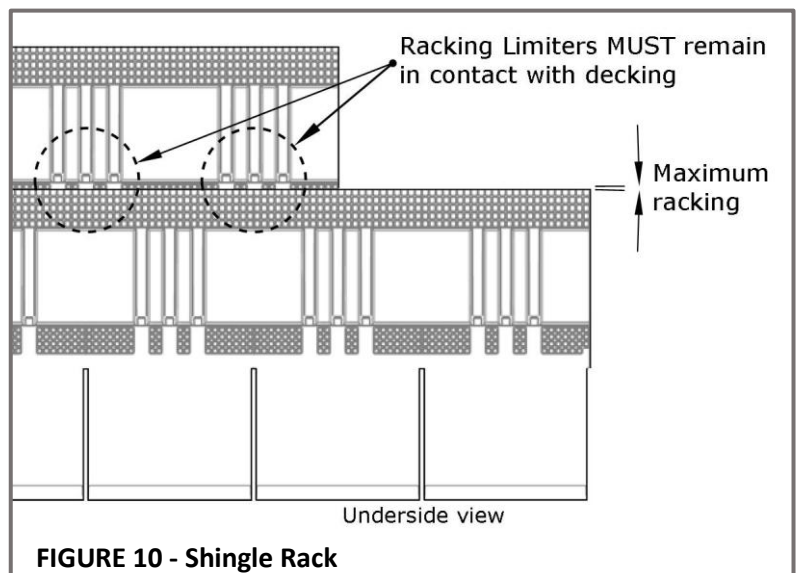
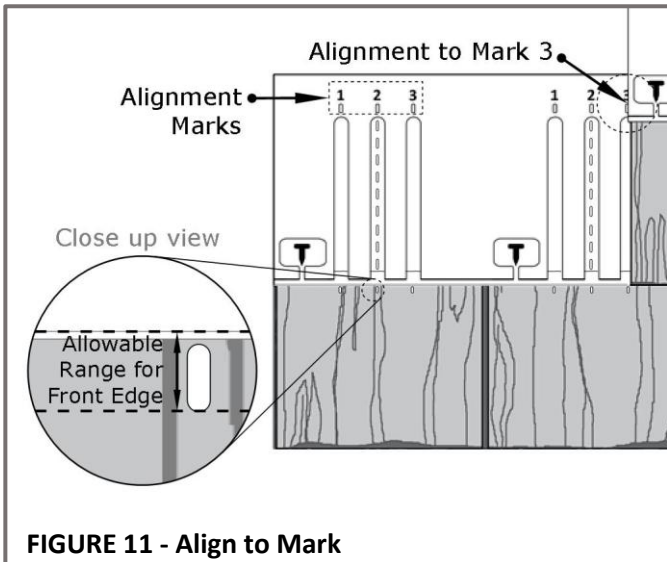

FIGURE 10 - Shingle Rack
FIGURE 11 - Align to Mark
- F-WAVE® REVIA® XTM™ Roofing Shingles have been designed to allow some rack (skew) when installed. See **Figure 10**, and **Figure 11**.
- For the **REPEATING OFFSET PATTERN**, place the edge of the shingle on the correct alignment mark. See **Figure 11**.